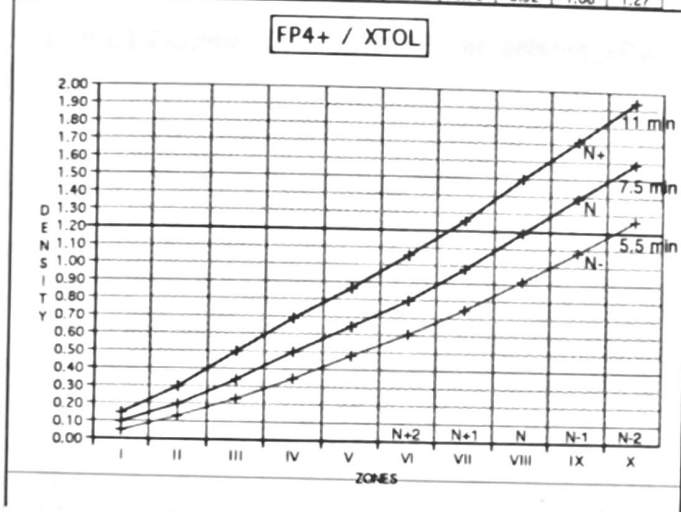

Figure 1 Density vs Zones
in table 1 are plotted on a graph (see Figure 1) of *Density vs Zones* and connected together. The three lines on the graph will indicate the films response curve for Normal, Plus and Minus development and are an indicator of how well print values will separate along each curve. From the graph it is seen that the Normal curve crosses a target density of 1.20 near the middle of Zone VIII, indicating that seven and a half minutes is approximately the correct Normal developing time for this film/developer combination. If you choose a different target density for Zone VIII, the Normal film curve will cross that density line at a different point and indicate a different developing time. The Figure 1 graph also shows if there is any shouldering off at the top of the film curves, especially with diluted developers.
In Figure 1 we see that the Minus curve dips below the 0.10 density line about two thirds of a Zone to the right of Zone I. This indicates the amount of additional exposure, two thirds of a stop in this case, needed to shift the curve to the left to ensure a Zone I density of 0.10 or more at N-1 development. From this information the approximation is made that a N-2 developing plan would require a full stop and a third of additional exposure for this film/developer combination.
Figure 1 are plotted on a graph (Figure 2) of *Density vs Time*. To make the plots, start with the Minus (0.92), Normal (1.19), and Plus (1.50) Zone VIII density values and put a dot where these densities fall above their corresponding development times. Connect the three dots with a line and label this line N. Reading down from where the line crosses the 1.20 density line, you will find the developing time for Normal (N) processing.
Calibrating the Camera/Meter System and the Step Tablet Method to a Zone I density of 0.10, for a given film/developer combination synchronizes the two together at Zone I. If the Camera/Meter System and Step Tablet Method both expose Zone I equally, then other Zones must also expose equally. Using just three sheets of film to produce the graphs in Figures 1 and 2 makes zeroing in on the Zone System quick and convenient. ▲